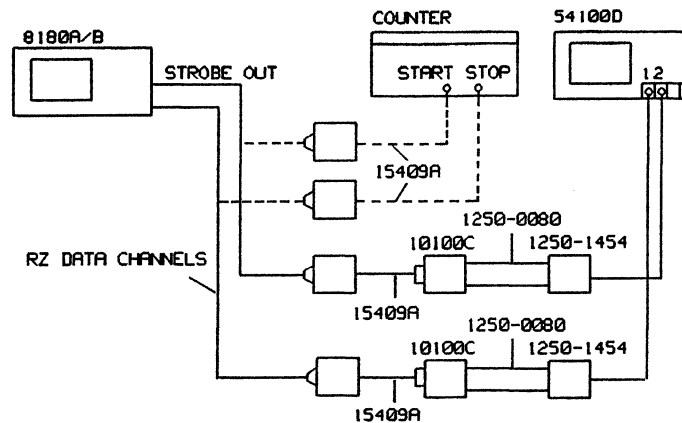

Figure 6-5. Test Setup for the Timing Channel Delay Test
6. Connect the equipment as shown in Figure 6-5 and press RUN.